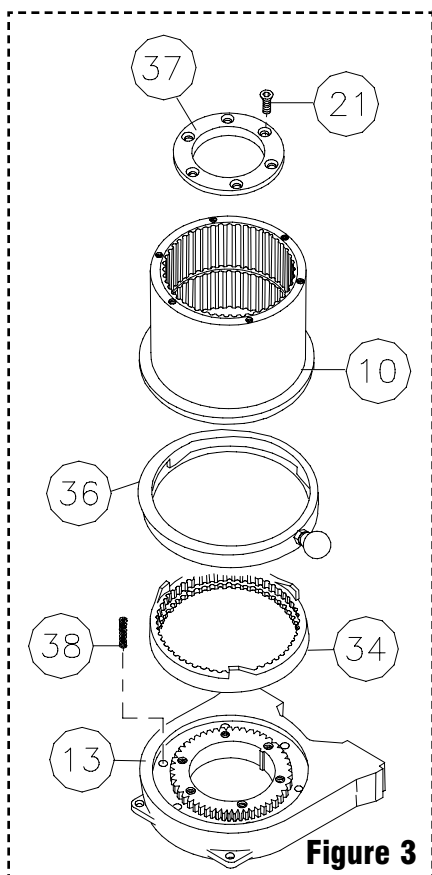
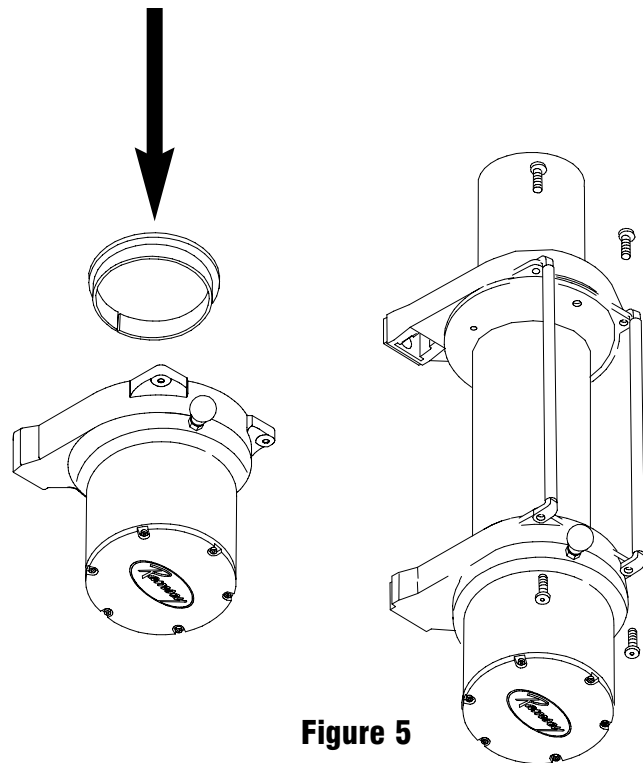

Figure 3
Figure 5
8. Reassemble Gear Housing as shown in Figure 3. Make sure locking ring is positioned with stop post at marked location. The capscrews (item #38) for the retainer should be tightened to 40-45 in-lbs. **Do not over-tighten.**
9. Place Gear Housing over the stacked gears, etc. that you removed in step 3. Gently work the housing over the stack, turning it as needed to mesh the planetary gears with the ring gear in the housing. Once they are all in the housing, flip the assembly over. Align the Gear Housing Cover and gasket with the holes in the ring gear. Replace the (6) capscrews that hold the Gear Housing Cover onto the Gear Housing. Tighten securely.
11. Turn the Gear Housing over and set it on the work bench with the Gear Housing Cover down. See Figure 5.
13. Place the tiebars on the motor end and gear end and fasten using (4) screws. Tighten securely.